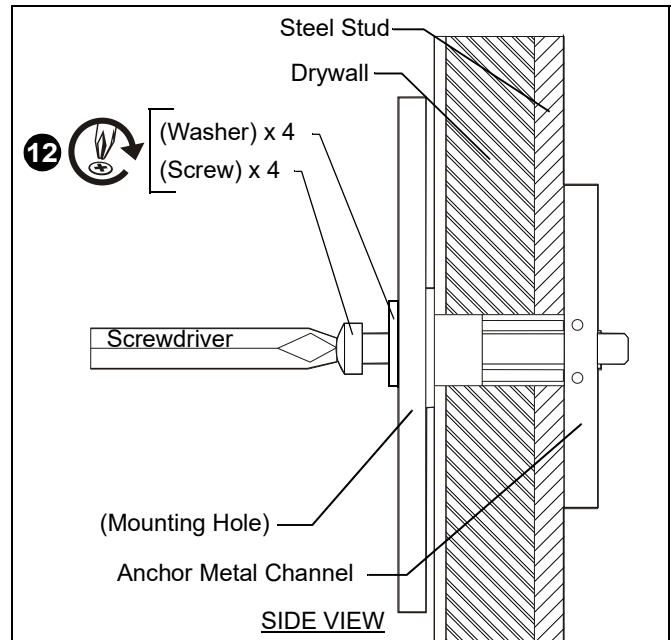

Figure 7
10. Place mount over anchors and align mounting holes in display mount with holes in anchors. (See Figure 7)
12. Insert Phillips pan head screw with flat washer through mounting hole in wall mount and into anchor and tighten until flush against mount. DO NOT overtighten! (See Figure 7)